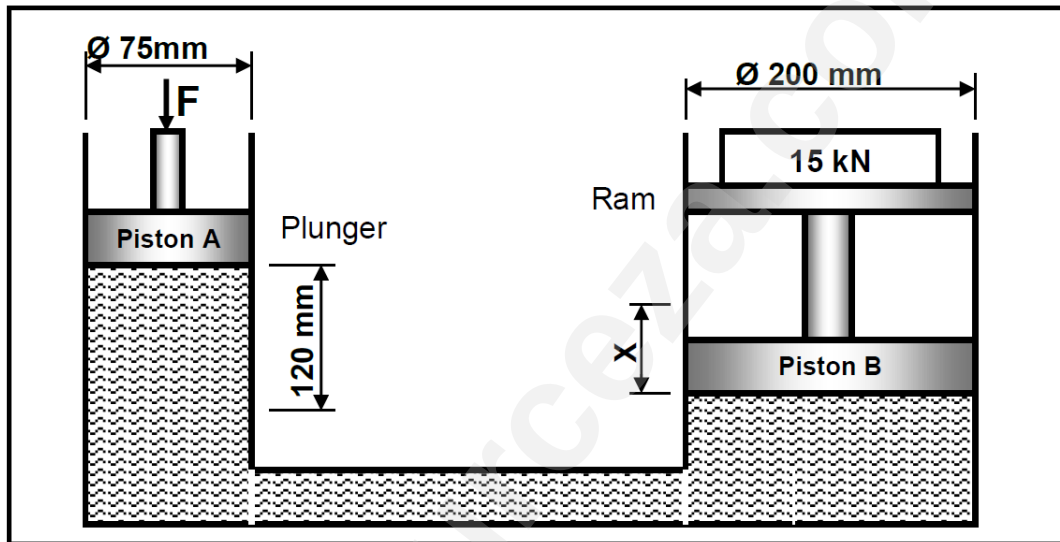

Figure 7.3
7.3 A hydraulic system is used to remove parts from a machine. The specifications of the system are indicated in FIGURE 7.3 below.